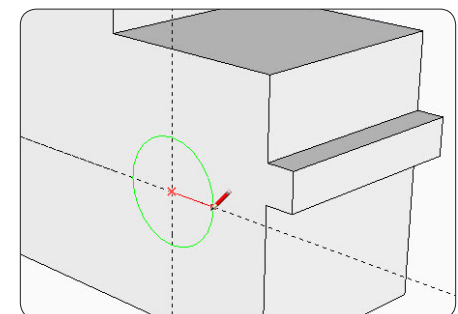

Figure 14. The Circle Tool placed over the intersection, ready to begin drawing the hole.
Step 11 Select the Circle Tool. Fix the center of the circle by clicking at the intersection of the two guide lines. (A label will appear to tell you that you're on the intersection.) Release the mouse button and move the mouse to lengthen the radius. Note that the Measurements Box is now labeled "Radius." Type $\frac{5}{8}$ (half of $1\frac{1}{4}$ in., or the radius of the hole), and press the Enter key (Figure 14). Delete the guide lines.